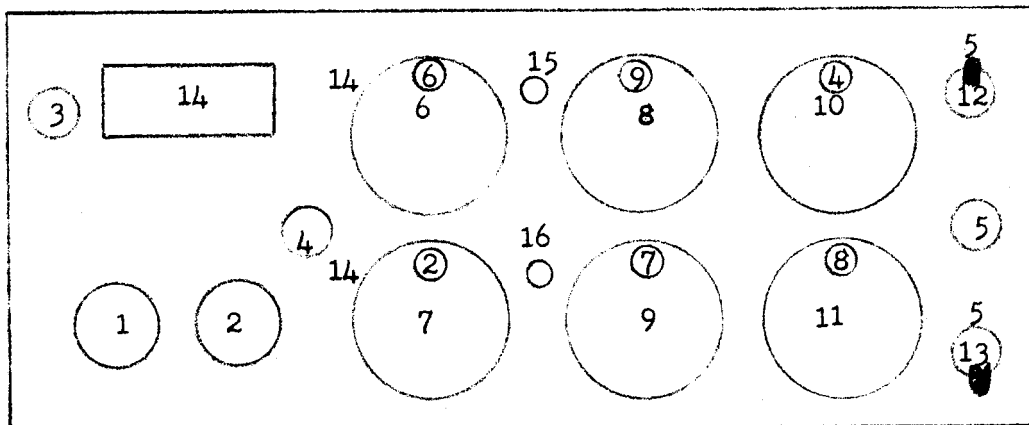

Figure 1. Panel control identification.
Panel Controls (See Fig. 1):
Refer to fig. 1.
- This frequency can be read directly by scanning across the switches from the panel-marked 14 on the left to the 5 khz indication on the right as seen on fig. 1. In fig. 1 the top row of switches is shown set to 146.945 mhz, the bottom row is shown on 142.780 mhz.